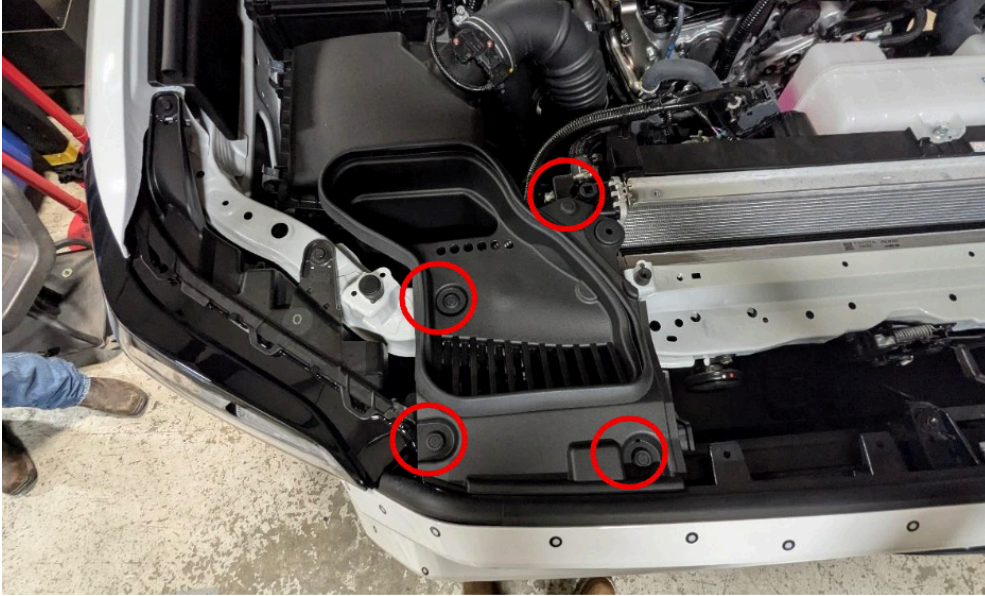

Figure 6
3. Using the panel pry tool remove the four (4) push pins in the intake scoop. (Figure 6)